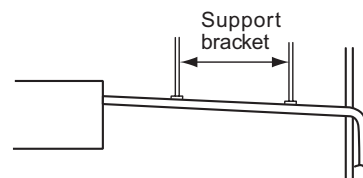

Fig. 2-62
- Do not apply force to the piping on the unit side when connecting the drain pipe. The pipe should not be allowed to hang unsupported from its connection to the unit. Fasten the pipe to a wall, frame, or other support as close to the unit as possible. (Fig. 2-62)